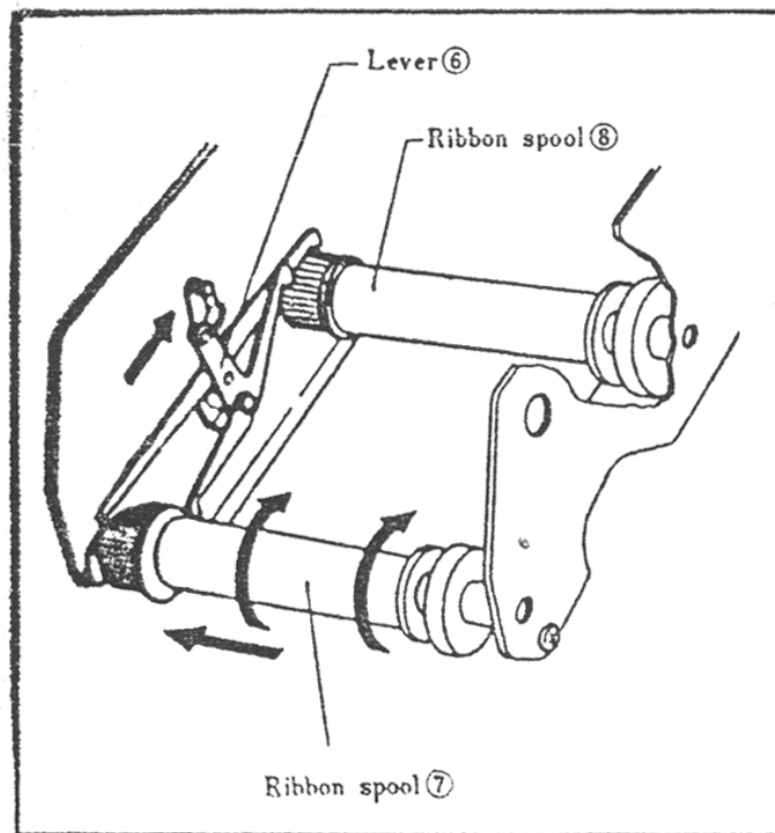

Figure 6.
(Refer to Fig. 6 & 7)
- First check whether the ribbon reverse turn **lever** [6] (see Figure 6) is inclined to the inner side of the machine. In case the lever is inclined to the front, push it in the direction of the inner side.